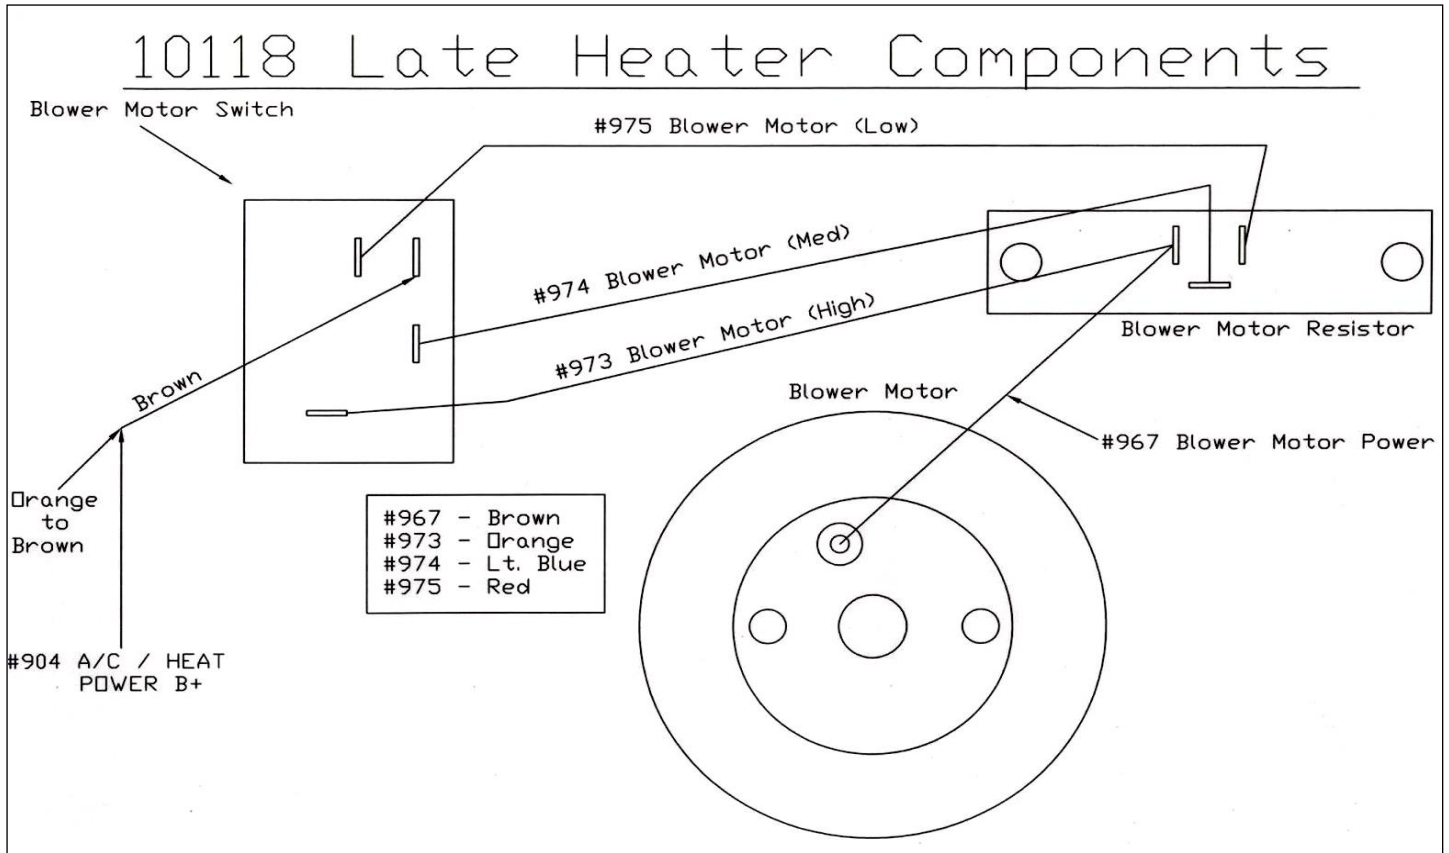

Figure 7-30 Heater Harness Installation for 1973-1977 years only.
7.14.2 For all 1973-1977 Ford Trucks with a factory heater and no Air Conditioning, locate the Heater Harness in the parts kit and install as shown below in **Figure 7-30**.